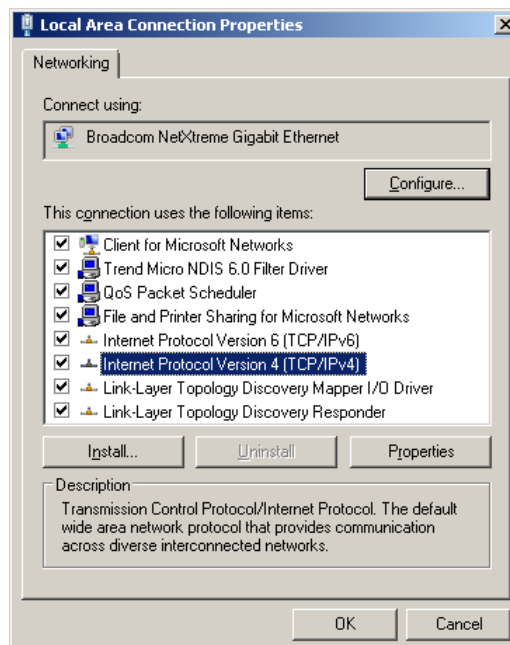

Figure 1.5-2 Local Area Connection 2 Properties dialog box
The “Local Area Connection 2 Properties” dialog box (Figure 1.5-2) will appear.
- (4) Select “Internet Protocol Version 4 (TCP/IPv4)” on the “Local Area Connection 2 Properties” dialog box (Figure 1.5-2). Then, select “Properties.”